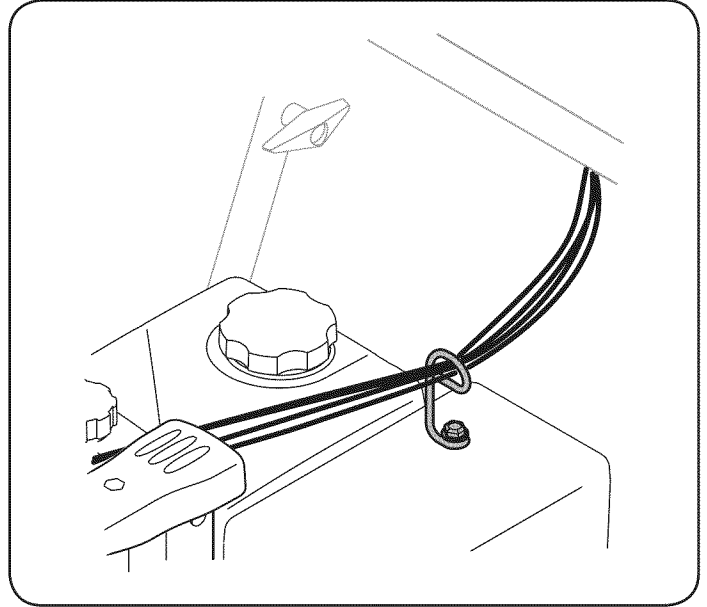

Figure 5
6. Check that all cables are properly routed through the cable guide on top of the engine. See Figure 5.